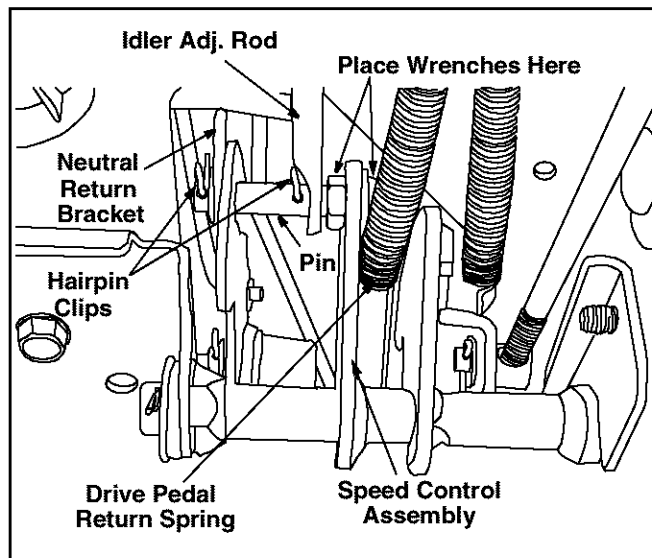

Figure 17
- Locate the speed control assembly on the underside of the steering support bracket. See Figure 17•.
- Remove both hairpin clips from the pin which is fastened to the speed control assembly (be careful not to lose the small flat washers found on the pin). See Figure 17
- Using two 9/16" wrenches, remove the pin from the speed control assembly. See •Figure 17.